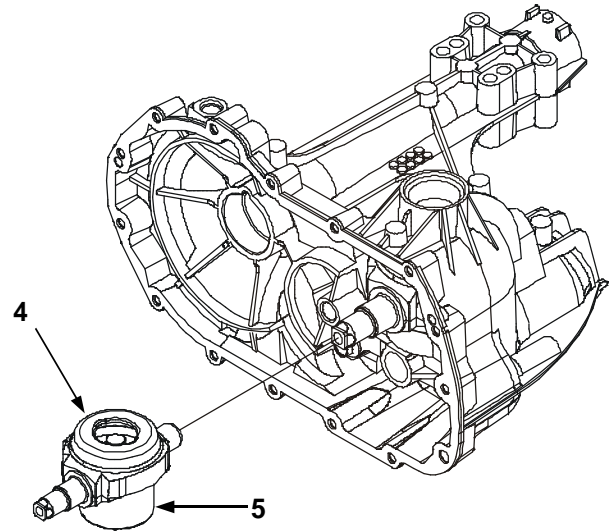

Figure 15
9. **(See Fig. 15)** Remove the swashplate (4) and pump cylinder block (5) as one assembly. NOTE: *Removal will be aided by applying a small amount of pressure on the trunion mounted swashplate towards the center section. Also note that the control arm (18, Page 32) may be loosely assembled at this point to assist in swashplate removal. While gently removing the swashplate and block assembly, keep the block face flush with the center section to minimize damage to the running surface.*